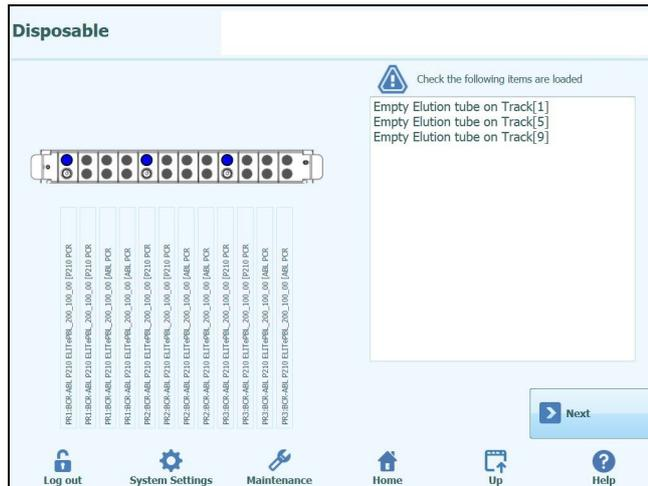

Figure 12
Ensure that the Tip (1) and the piercer (3) are placed as shown in the picture below (Figure 12).